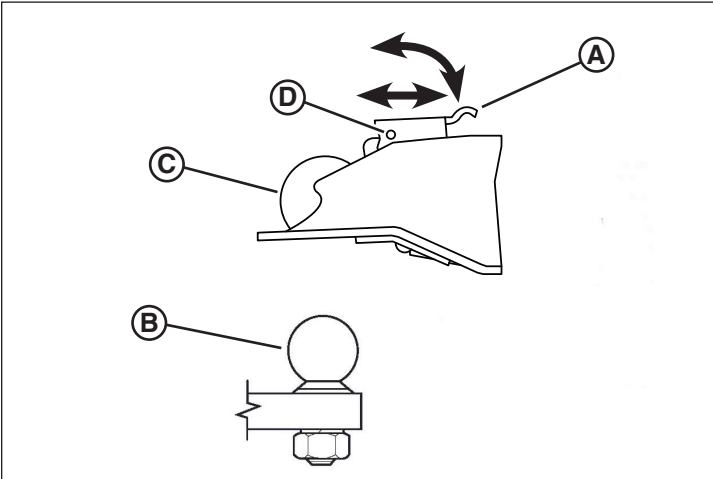

Figure 8
1. Lift up and pull back on the locking latch (A, Figure 8) of the trailer coupler.
2. Lower the trailer coupler onto the vehicle ball hitch. Make sure the hitch ball (B, Figure 8) is completely engaged in the coupler socket (C).
3. Push the locking latch forward and down. (It is self-locking.) If preferred, insert a padlock through the latch hole (D, Figure 8) for added security.
1. Remove the padlock (if installed) from the trailer coupler latch (D, Figure 8).
2. Lift the trailer coupler (A, Figure 8) latch up and back.